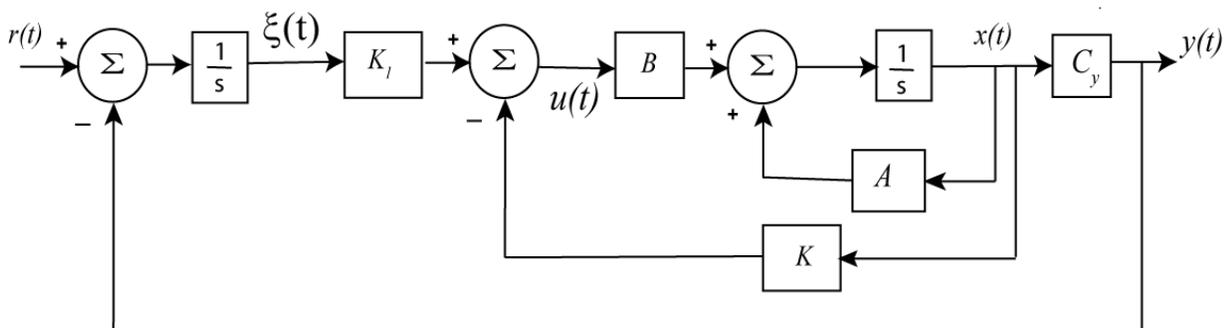

Figure 1. Integral control structure.
a) Copy your program **Basic_1dof_State_Variable_Model_driver.m** to a new file **sv1_integral_driver.m**, then copy the Simulink file **Basic_1dof_State_Variable_Model.mdl** to **sv1_integral.mdl**. Modify these **new** files to implement state variable feedback using integral control. The basic integral control scheme is shown below in Figure 1. Note that the prefilter is equal to 1.